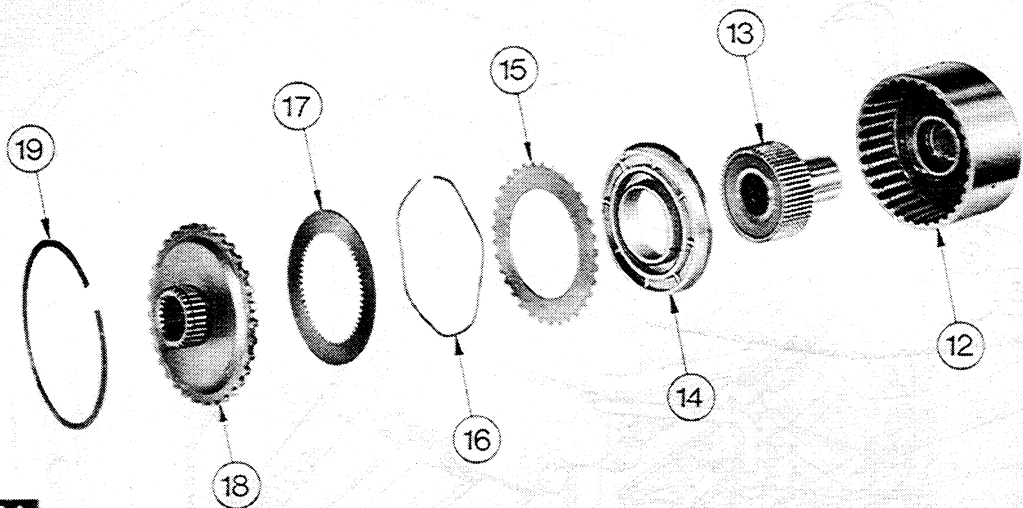

FIG. 14
3. Fig.14. Remove the snap ring (19) and then lift out the clutch cover plate (18).
4. Remove the centre hub (13).
5. Remove the seven friction discs (17), springs (16) and pressure plates (15).
6. Invert the housing (12) and tap out the piston (14). If necessary remove the piston ring.